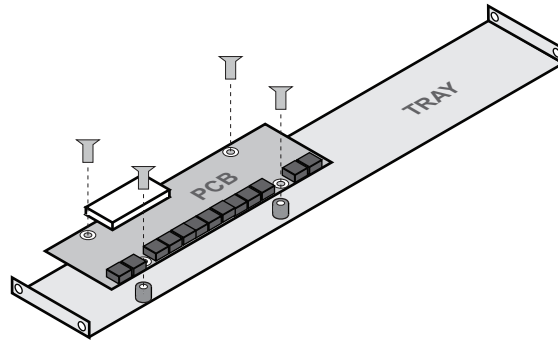

Figure 2.4 Installing the Breakout PCB on the Rack Tray
1. Position the Breakout PCB atop the screw posts on the tray. Refer to **Figure 2.4**.